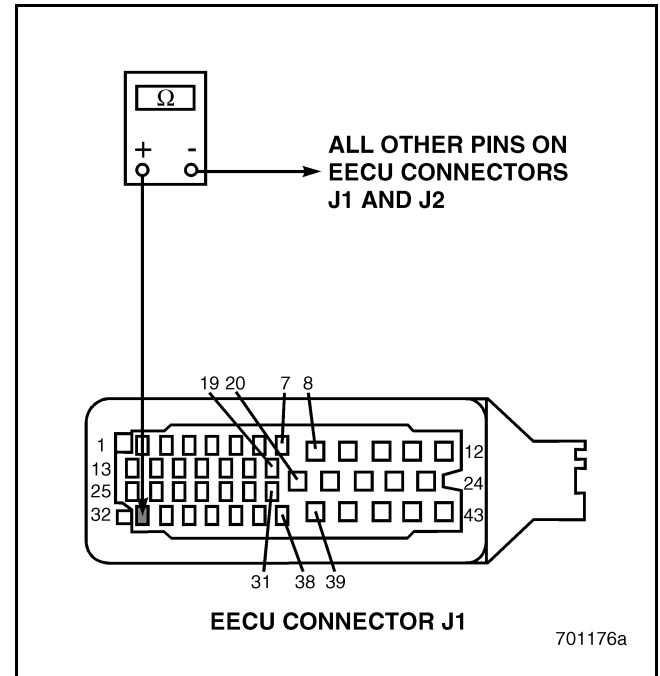

Figure 19
4. Check for continuity between EECU harness connector J1 pin 32 (reference voltage line) and all other pins in EECU harness connectors J1 and J2 (see Figure 19).